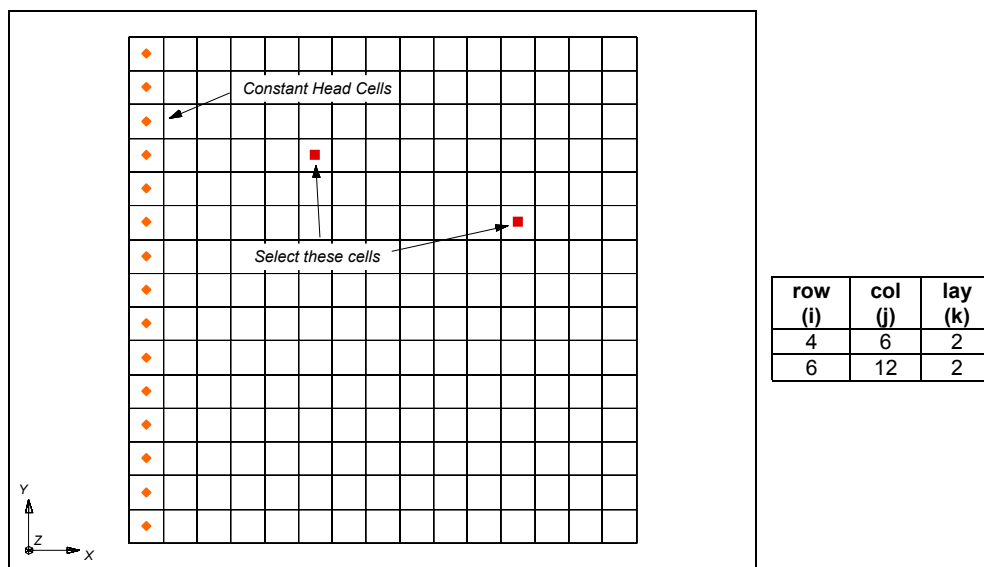

Figure 2-4 Cells to be Selected on Middle Layer.
2. While holding down the *Shift* key, select the cells are shown in Figure 2-4.